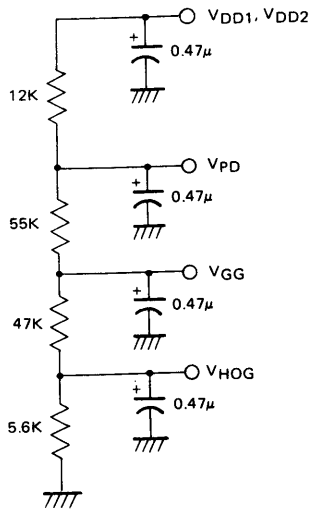

Fig. 4 Recommended Circuit for Bias Setting of V_{DD1} , V_{DD2} , V_{PD} , V_{GG} , and V_{HOG}
(Some of the characteristics shown below are determined by the recommended circuit in Fig. 4. Refer to Note 1 through 8.)
1. V_{PD} , V_{GG} , and V_{HOG} should be produced from V_{DD1} and V_{DD2} . Resistance precision should be $\pm 5\%$. See Figs. 4 and 5.